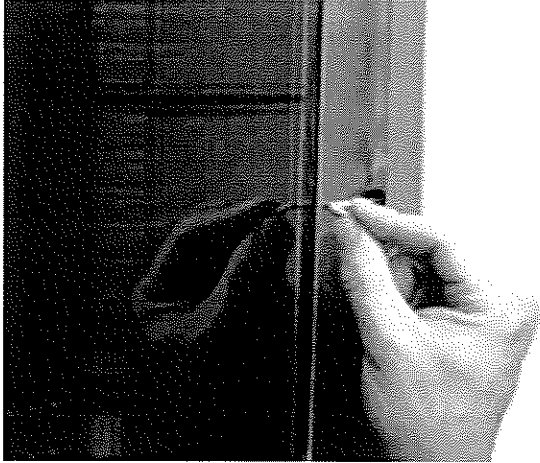

Figure 8-7. Use Allen Key
7. Use a 3/32" Allen key to loosen screws (see Figure 8-7). Use needle nose pliers to remove screws.